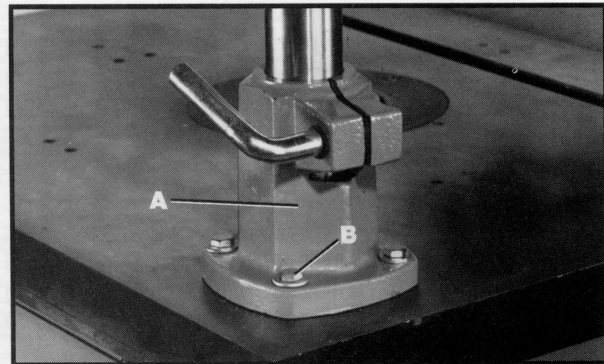

Fig. 2
1. Position the mounting bracket (A) Fig. 2, at the desired location on the machine.
4. Fasten mounting bracket (A) Fig. 2, to the table with 4 two inch-long bolts, three of which are shown at (B) Fig. 2, 8 flat washers, 4 lockwashers and 4 hex nuts supplied.